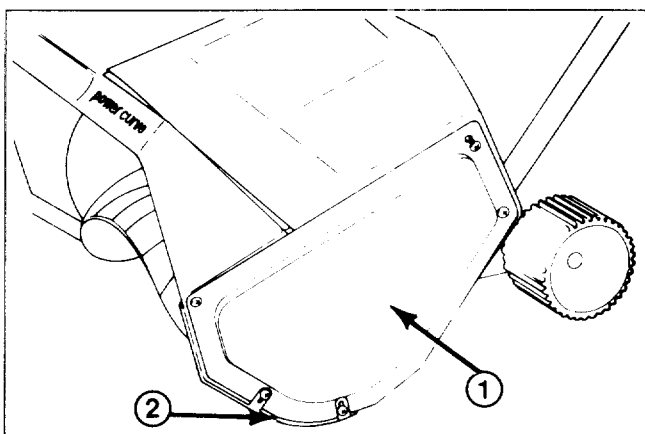
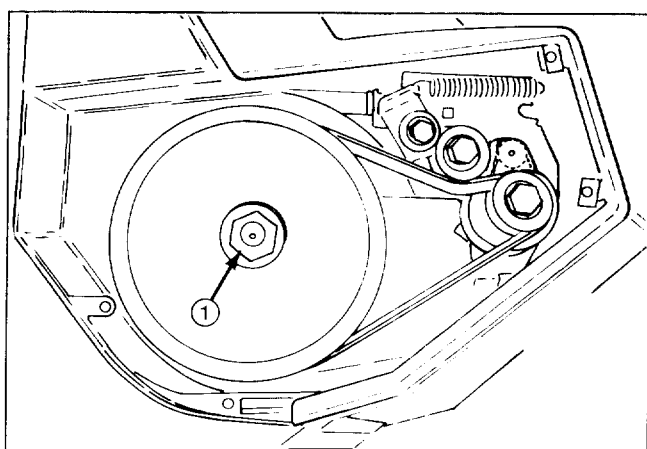

Figure 11
Figure 12
Note: If unable to remove rotor shaft by holding rotor, remove left side cover and skid (Fig. 11) and hold hex nut with 7/8" wrench while unscrewing rotor shaft (Fig. 12).
1. Remove (5) screws securing left side plate to snowthrower frame (Fig. 11). Remove side plate and skid.
1. Remove (5) screws securing left side plate and skid to snowthrower frame (Fig. 11). Remove side plate and skid.